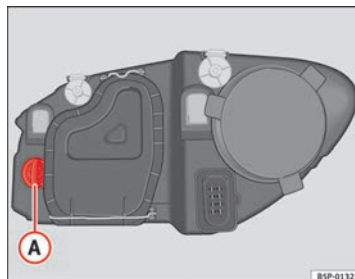

Fig. 186 Turn signal bulb
- Turn bulb holder ⇒ Fig. 186 A to the left and pull.